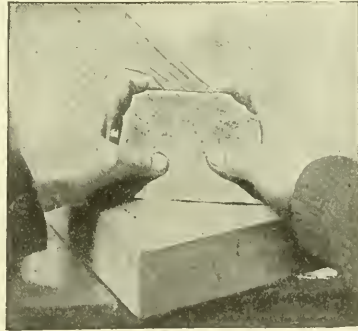
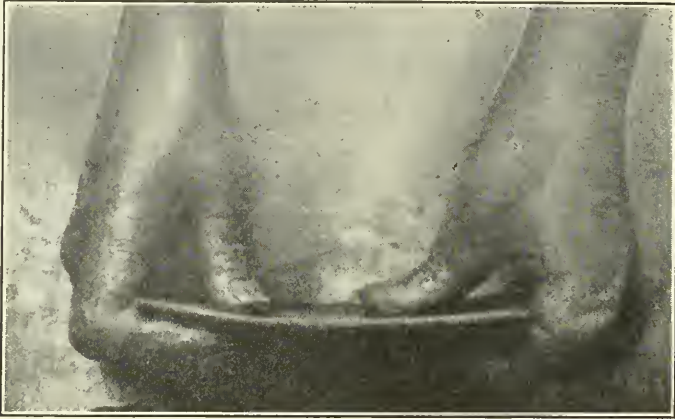
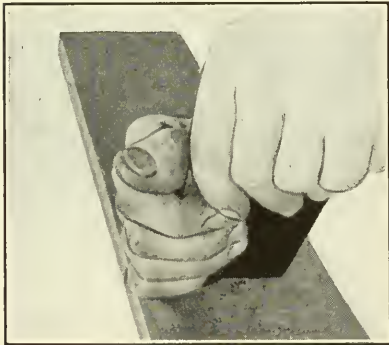

Fig. 168
Fig. 169
Fig. 170
55. The Scraper.—The cabinet-scraper is made of saw-blade steel, and is used to make a surface smoother than can be done with the plane or other tool. The edge is turned over as in Fig. 167 (see also page 109) and cuts off thin shavings. Hold the scraper between the fingers and thumbs (Fig. 168), inclined from you but as nearly upright as will allow the edge to cut well, and push it forward with force. Spring or bend it slightly so that it will cut in the middle (Fig. 169). Scrape with the grain as a rule. It is often best however to hold the scraper obliquely to the grain (Fig. 168), when there are little ridges or undulations on the surface, and where there are alternations of hard and soft grain, as in quartered oak. If the grain is crooked or twisted, scrape in any direction that will make the surface smooth. Test for smoothness by running the fingers over the surface with a light touch. An experienced workman can at once feel in-
Sometimes one end is held between the thumb and fingers of one hand and the palm of the other hand applied below to push the tool (Fig. 170), but for nice work the way shown in Fig. 169 is best.